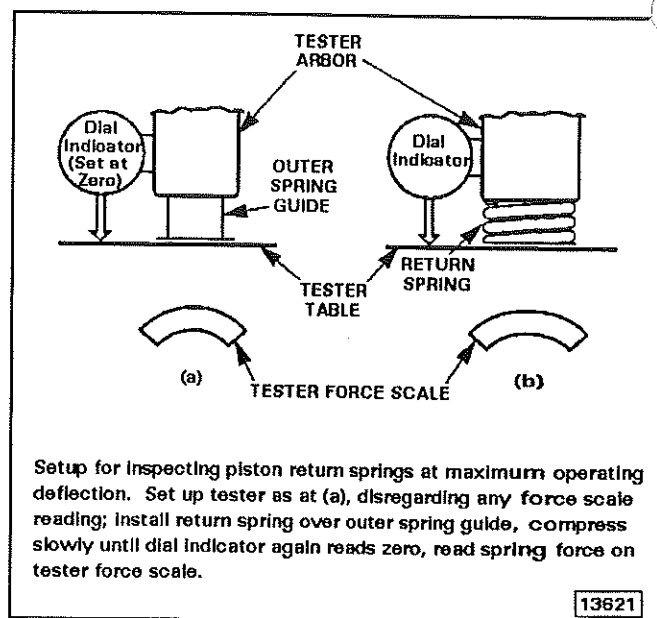

FIGURE 7 - INSPECTING PISTON RETURN SPRING
2. Measure the spring force at the maximum service deflection on a spring checker. Use an outer spring guide (11) for test set up purposes. (Figure 7)
4. Place the outer spring guide (11) under the test arbor.
6. Hold the arbor in this position and set the indicator dial to zero. See Figure 7, View (b).
8. Place the return spring over the spring guide (11) and lower the arbor slowly until the dial indicator again reads zero.